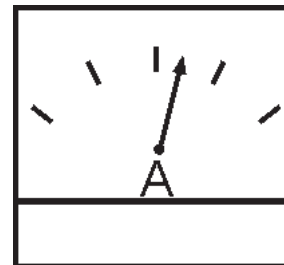

Figure 53. Ammeter (Load)
18. Observe the generator's ammeter (Figure 53) and verify it reads the anticipated amount of current with respect to the load. The ammeter will only display a current reading if the load is in use.